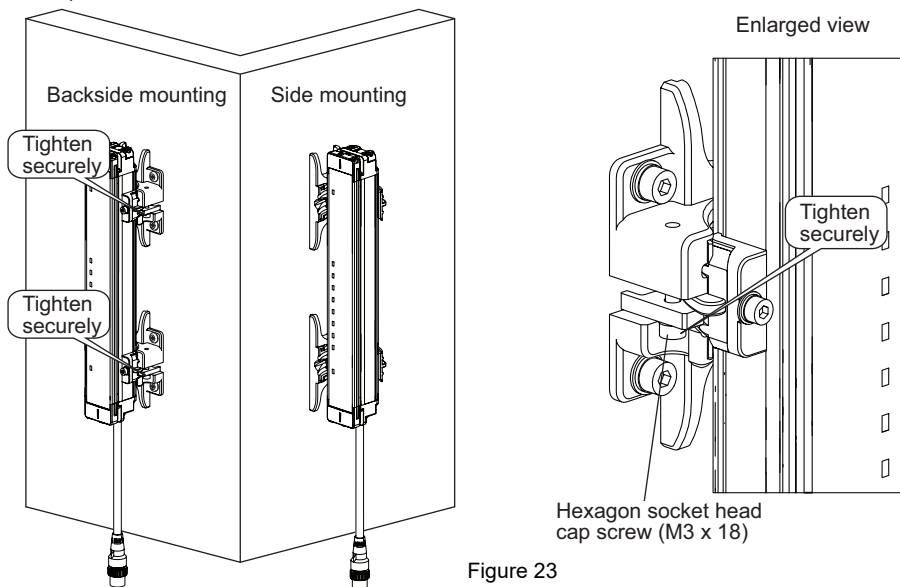

Figure 23
- Tighten the lightly tightened the hexagon socket head cap screws (M3 x 18) of Intermediate Bracket (3) to prevent rotation. (Figure 23) If there are three or more Intermediate Brackets, tighten the hexagon socket head cap screws (M3 x 18) from the order of top, bottom and middle brackets with a tightening torque at 0.54 N·m (recommended).